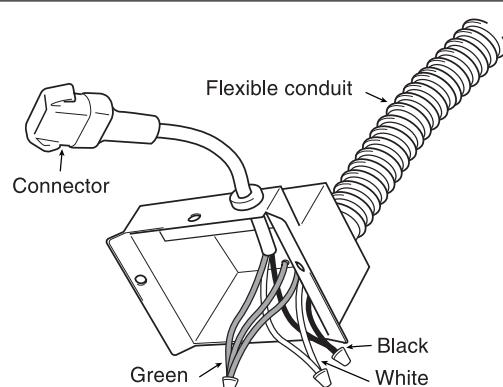

Fig. 4
- Refer to the wiring diagram above. Using the wire nuts, connect the house power wires to ventilating fan wires. (Fig. 4): black to black; white to white; green to greens. Reattach the junction box cover.
10. Refer to the wiring diagram above. Using the wire nuts, connect the house power wires to ventilating fan wires. (Fig. 4 on page 5): black to black; white to white; green to greens.